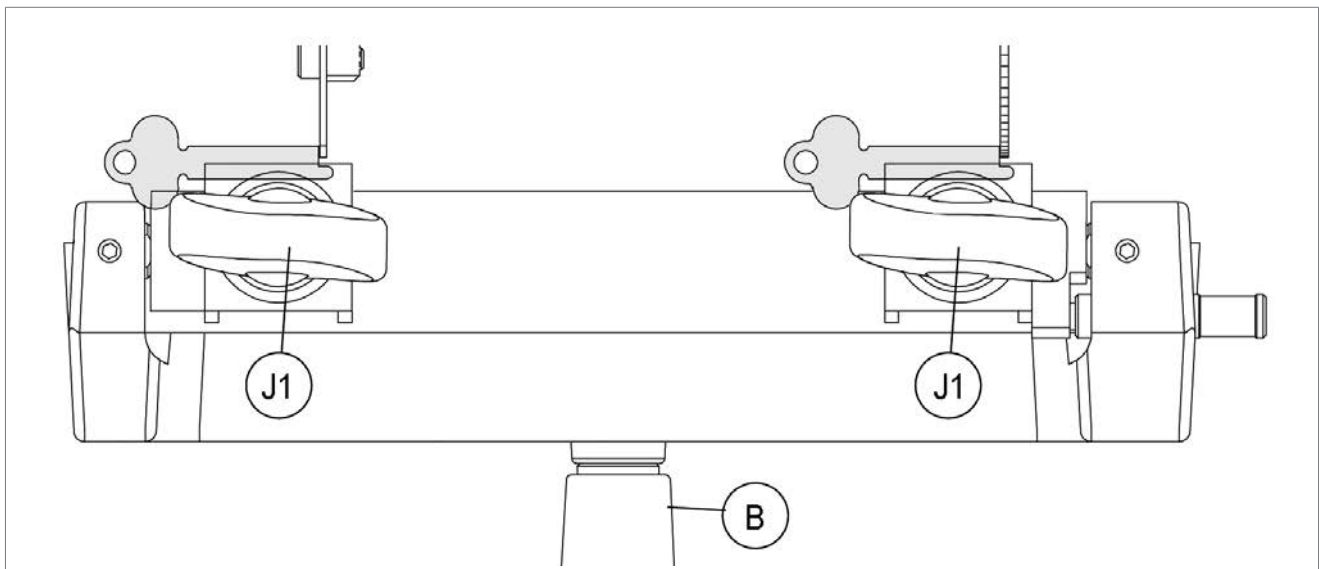

Fig. 34
- 5) Move the carriage and place the bit of the original key up against the tracer point (Fig. 34); check that the bit of the key to be cut is up against the cutter so that both keys are perfectly aligned.
- 7) Start the machine with switch (K) and proceed with cutting.
- 8) Move the carriage with lever (A) to take the original key cuts into contact with the tracer point.
- 9) Take the carriage back with lever (A), go on to the next cutting position and continue from point 7.
- 10) When cutting is finished, turn off the switch (K) and remove the keys.